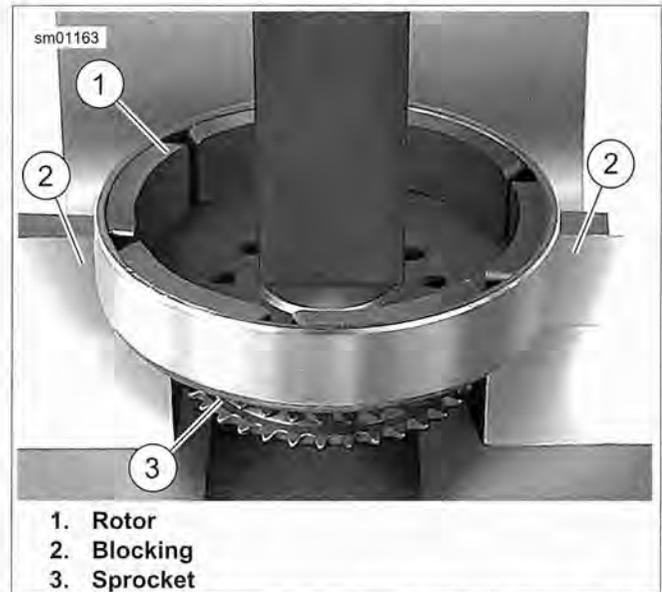

Figure 6-99. Removing Rotor from Sprocket (XL Models Only)
2. See Figure 6-99. Position blocking (2) under rotor (1). Press sprocket (3) free of rotor.